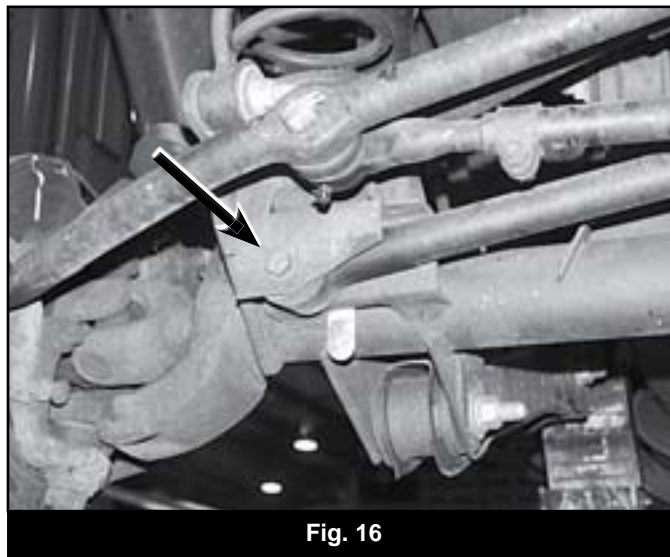

Fig. 16
36. Disconnect the track bar from the axle (Fig 16). Disconnect the OE track bar frame bracket from the driver's side. Remove the four bolts/nuts and remove the bracket and track bar from the vehicle. Save the frame mount hardware.